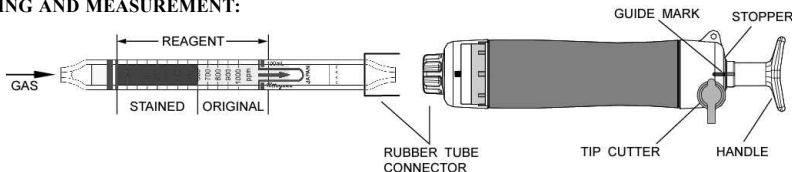

Fig.1
- ① Break both ends of the detector tube.
- ② Insert the detector tube into the aspirating pump securely as shown in Fig.1. (Arrow mark shall point to the pump.)
- ③ Align the guide marks on the handle and stopper of the aspirating pump.
- ④ Pull the pump handle at a full stroke until it locks and wait for 3 minutes or until the completion of sampling is confirmed with the flow indicator of the pump. (See descriptions about the flow indicator in the instruction manual of the pump.)
- ⑤ On completion of sampling, read the scale at the maximum point of the stained layer.
- ⑥ When the concentrations are below the scale range, 4 pump strokes can be used to determine concentrations of 5 to 50 ppm. At this point, turn the handle right or left by 1/4 (90°), push it toward the pump without removing the detector tube from the pump and repeat the step ③ to ④ 3 times more.
- ⑦ On completion of the sampling, read the scale at the maximum point of the stained layer and multiply the reading value after temperature correction undermentioned, by 0.25 for values up to 50 ppm.
- ⑧ When the concentrations are over the scale range, a 1/2 pump stroke can be used to determine concentrations of 40 to 2000.